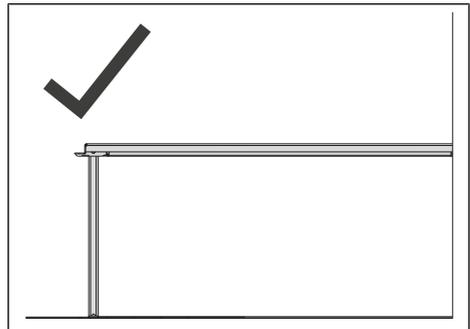

Fig. 6-22: Correctly positioned landing leg foot
- ▶ Properly lock the landing leg foot in the floor. Pay attention to the correct position of the landing leg foot (see "Fig. 6-22: Correctly positioned landing leg foot", pg. 64).